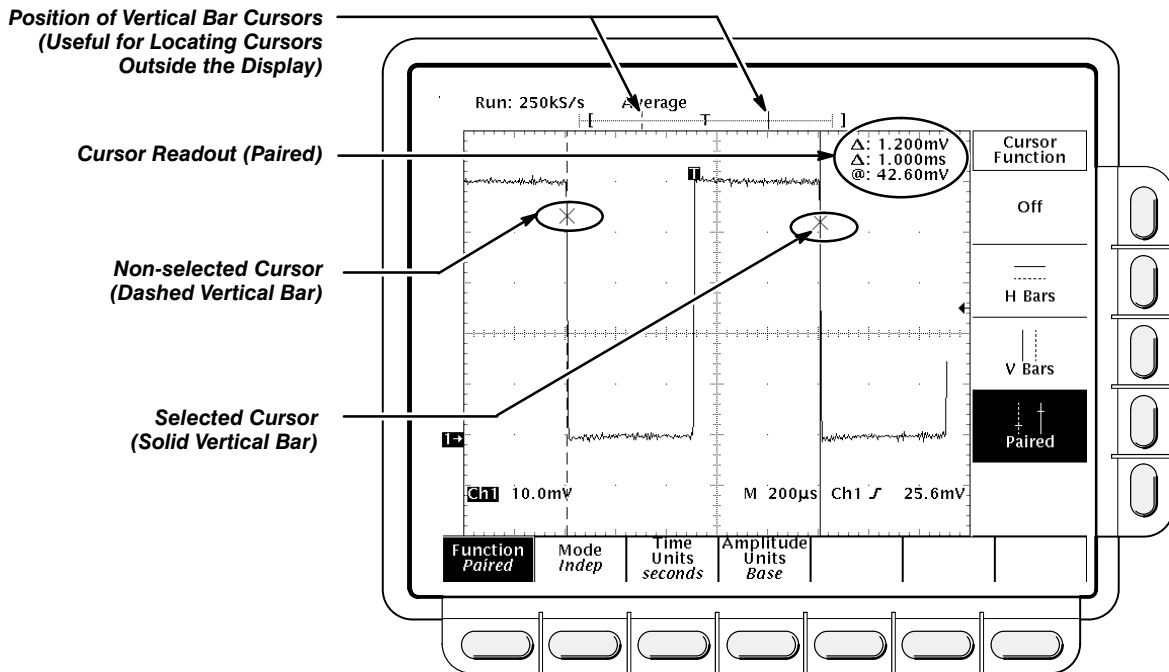

Figure 3-11: Paired Cursor Menu and Readouts
- **Paired:** the value after one Δ shows the voltage difference between the two Xs; the other Δ shows the time (or frequency) difference between the two long vertical bars. The value after @ shows the voltage at the X of the selected cursor relative to ground (see Figure 3-11).